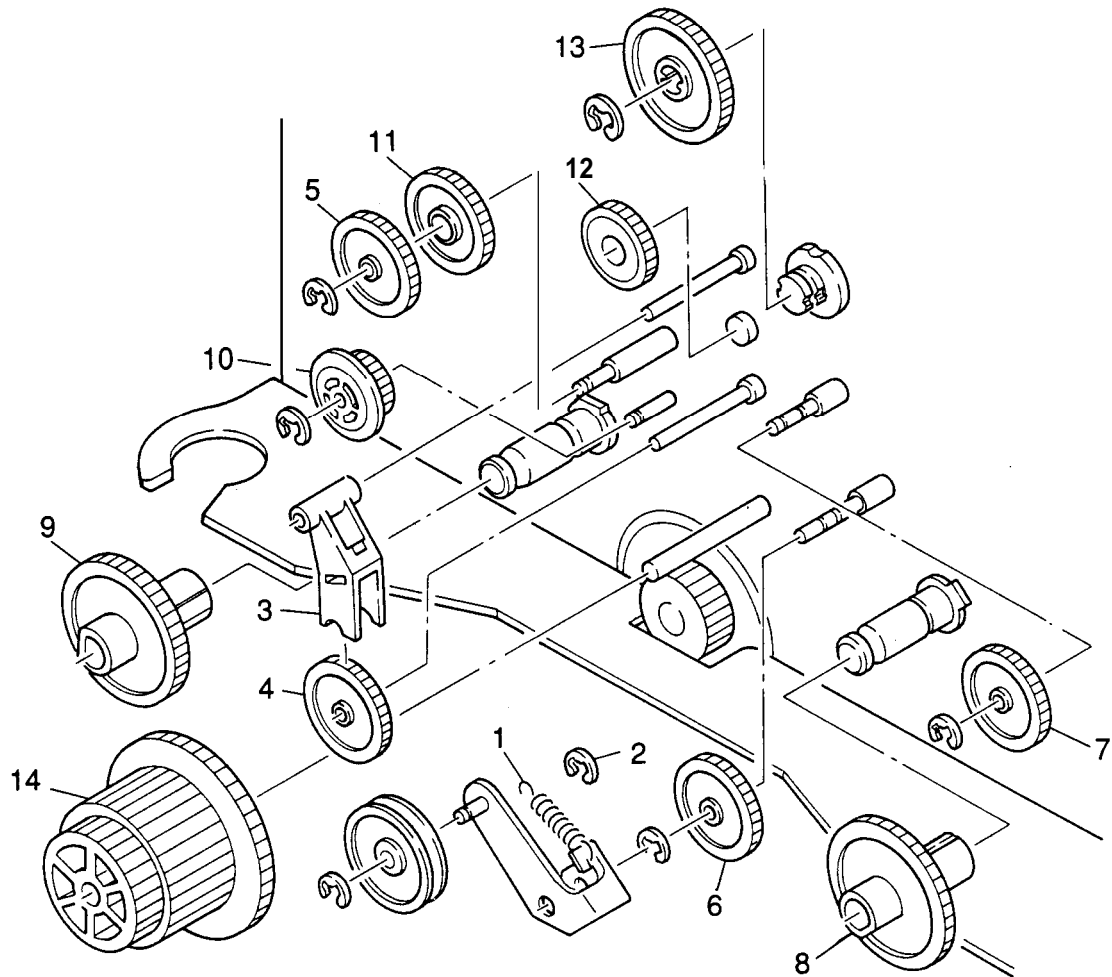

Figure 3-51. Removing the Left Side Frame Gears
4. Remove the series of gears in the order indicated by the numbers in Figure 3-51.